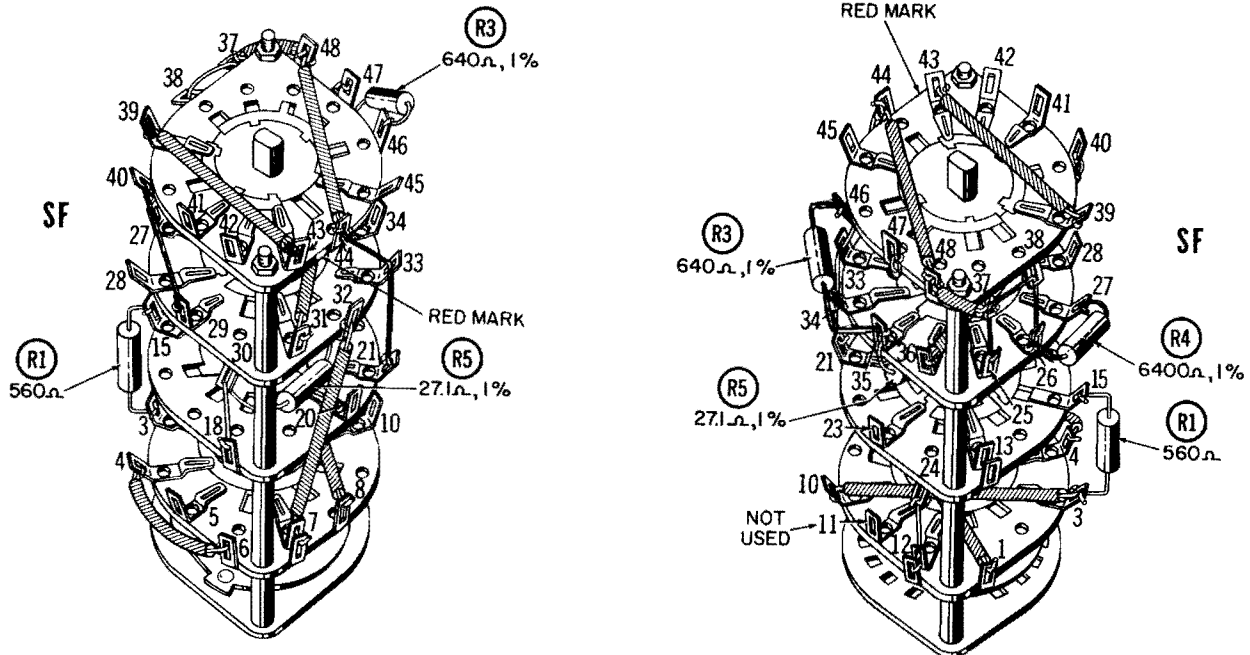

FIGURE 1 (SEE BLOW-UP NO. 2)
REFER TO FIGURE 1.
**NOTE:** Before wiring, be sure the switch rotor segments are positioned with respect to the switch contacts as shown in Figure 1. Also note red mark adjacent to terminal 43. This will assist you in locating the switch terminals.